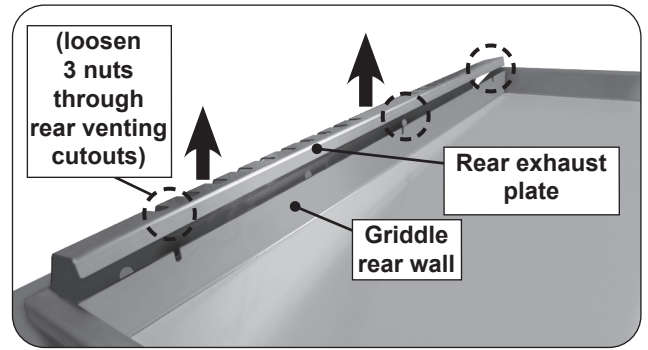

Fig. 39-1 Rear exhaust plate removal
1. Remove the rear exhaust plate by loosening the three nuts (no need to remove nuts completely), then lift the panel up from the griddle top (see Fig. 39-1).